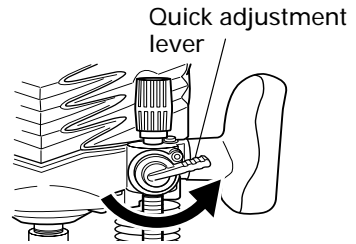
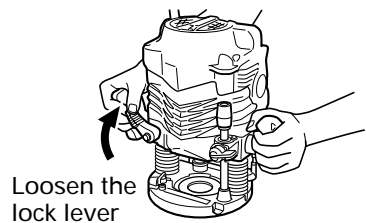

Fig. 4
Fig. 5
- (1) Place the tool on a flat wood surface.
- (2) Turn the quick adjustment lever in a counterclockwise direction until the quick adjustment lever stops. (Fig. 4)
- (3) Turn the stopper block so that section to which the cutting depth setting screw on a stopper block is not attached comes to the bottom of the stopper pole. Loosen pole lock knob allowing the stopper pole to contact with stopper block.
- (4) Loosen the lock lever and press the tool body until the bit just touches the flat surface. Tighten the lock lever at this point. (Fig. 5)
- (5) Tighten pole lock knob. Align the depth indicator with the "0" graduation of scale.
- (6) Loosen pole lock knob, and raise until indicator aligns with the graduation representing the desired cutting depth. Tighten pole lock knob.
- (7) Loosen the lock lever and press the tool body down until the stopper block to obtain the desired cutting depth.